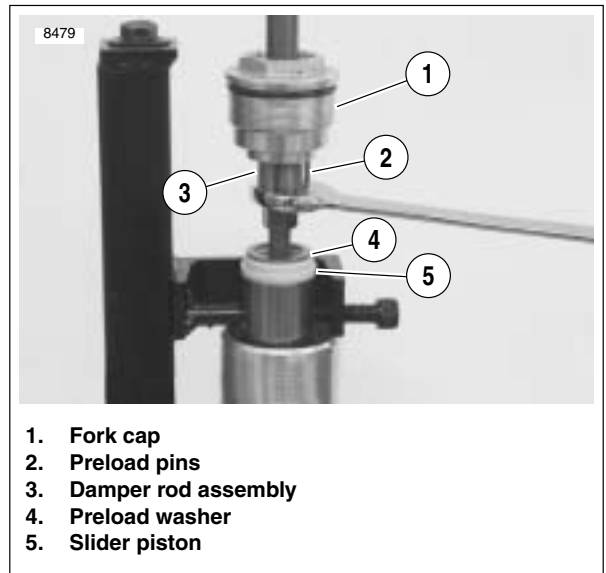

Figure 2-70. Holding Damper Rod Assembly
7. See Figure 2-70. Hold damper rod assembly (3) and remove fork cap (1).
20. See Figure 2-70. Install preload washer (4) and slider piston (5).
See Figure 2-70. Careful not to damage preload pins (2) while holding damper rod assembly (3).